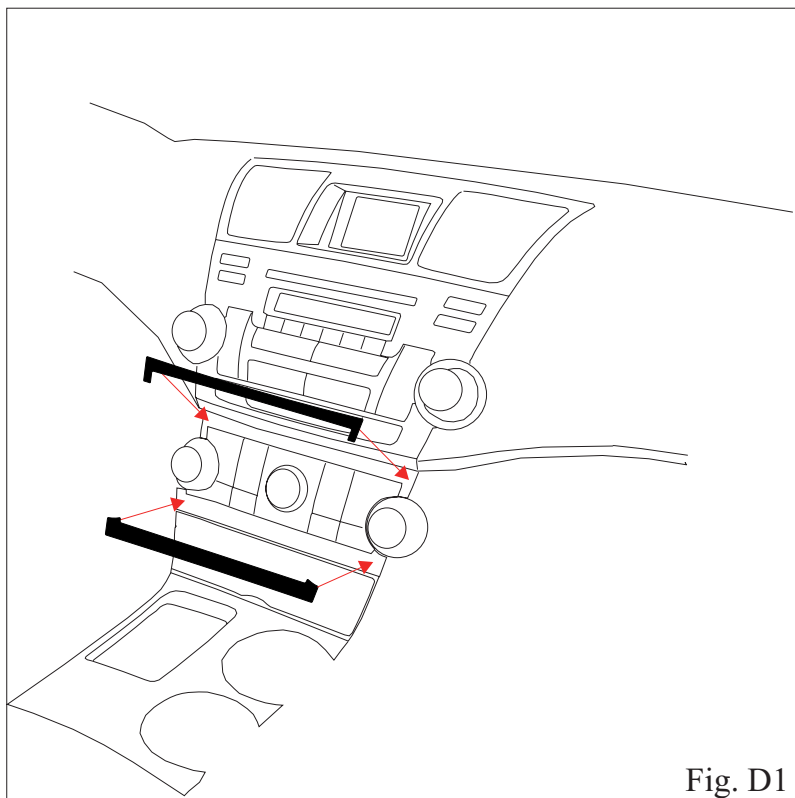

Fig. D1
A. Align part uniformly to edge of factory components. Edge of appliqué should be flush to edge of factory component,  $\pm 1.0\text{mm}$ . (Fig. D1).